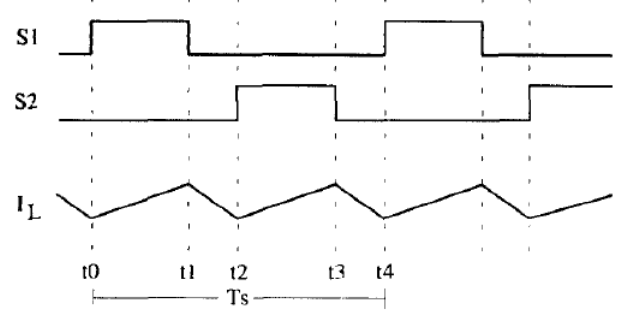

Fig 3: Operation waveform when $V_{in} > V_o/2$
1) *Region 1* - $V_{in} > V_o/2$: When the required output is less than twice the input voltage, then we apply the operating mode as shown in figure 3. In this operation mode, duty cycle $D < 0.5$